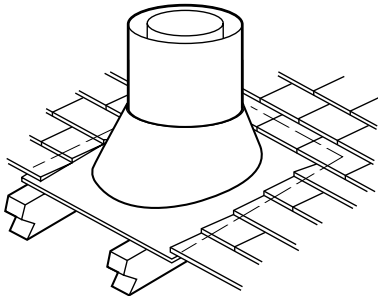

Figure 37
Step 7. Secure flashing by nailing along the perimeter into roof using 8d nails. If shingled roof, slide upper end and sides of roof flashing under shingles (trim if necessary), seal the top and both sides of the flashing to the roof with roof caulking. Cover nail heads with roof caulking (Figure 37).